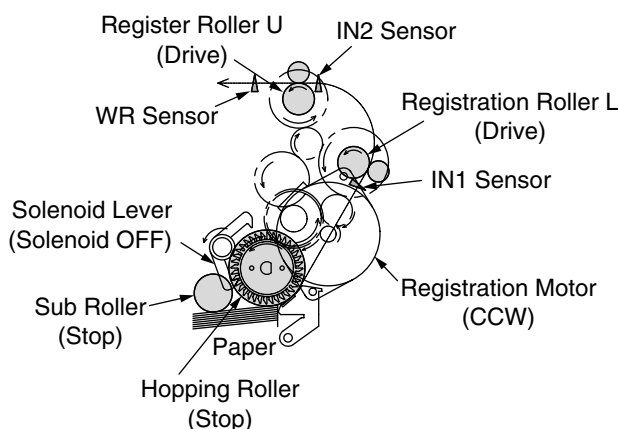

Figure 2-2
3. As shown in Figure 2-2, the solenoid is turned OFF and the paper is transported by register roller L. (When the solenoid is OFF, register roller L is driven.)